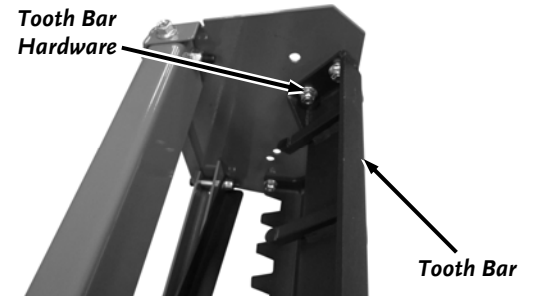

Figure 8
4. Support the Tooth Bar as you remove the four Bolts and Locknuts that are securing the Tooth Bar using two 9/16" Wrenches (**Figure 8**).